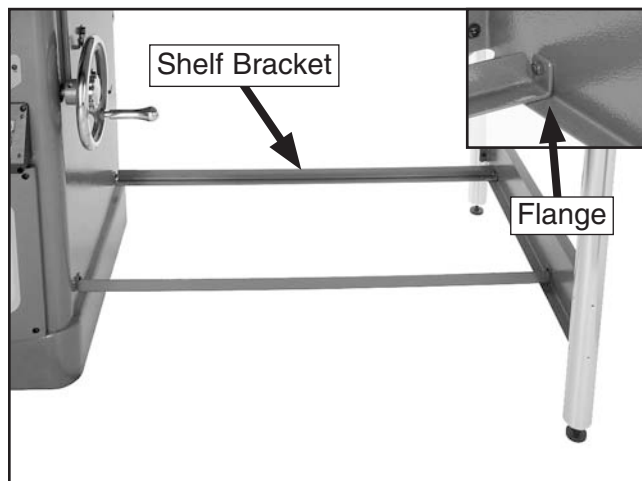

Figure 19. Shelf brackets installed.
- Place the shelf brackets between the cabinet and support legs, and fasten with four M6-1 x 12 hex bolts, four flat washers and two hex nuts (on the outside) as shown in **Figure 19**.